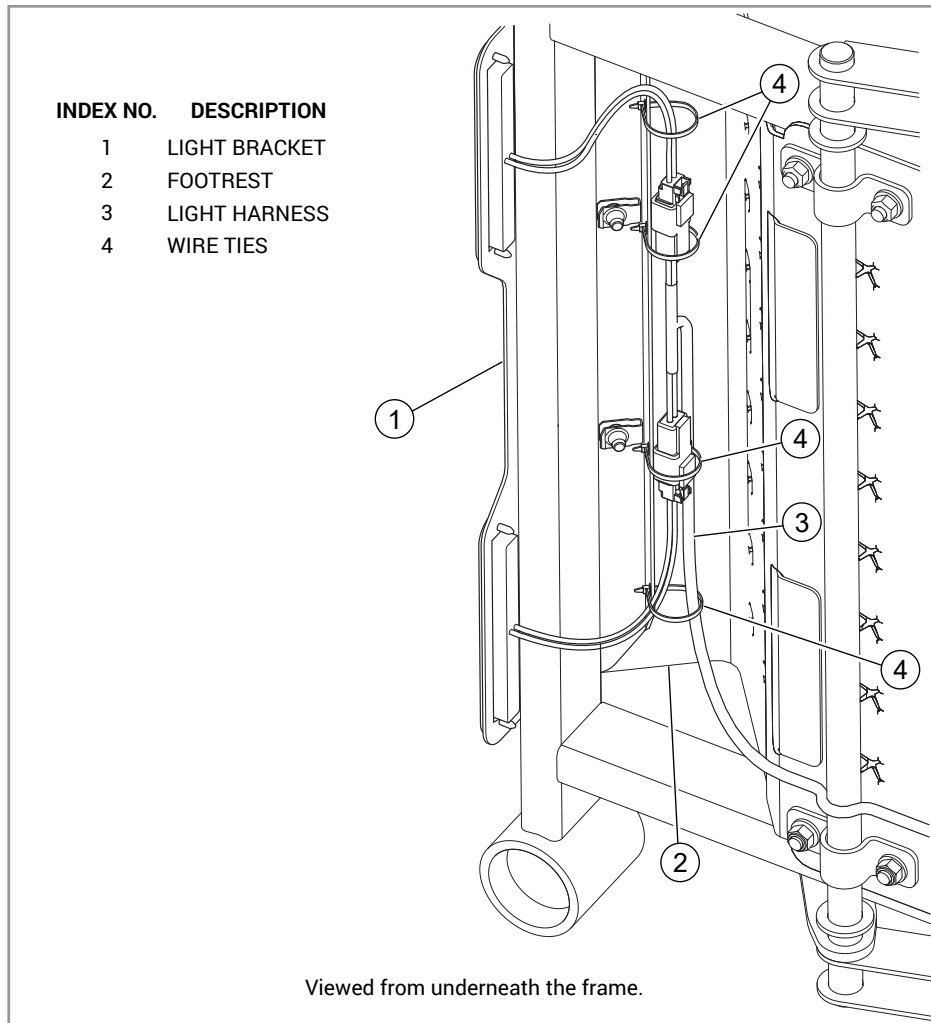

FIG. 2
4. Attach the light harness to both lights. FIG. 2
5. Route the light harness along the inside front of the mower frame. FIG. 2
6. Secure the light harness with the wire ties. Do not tighten at this time. FIG. 2